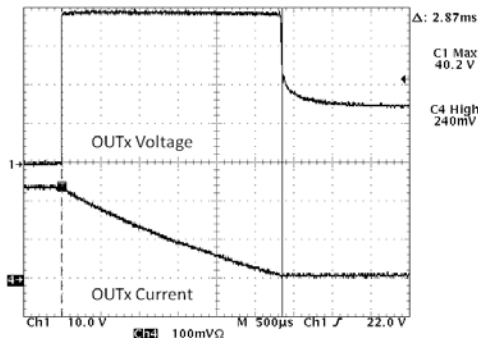

Figure 4. Repetitive Clamping Energy Test
- Testing particulars, 2M pulses, $V_{bat} = 15\text{ V}$, $63\ \Omega$, 390 mH, $T_A = 25^\circ\text{C}$. (See Figure 4)